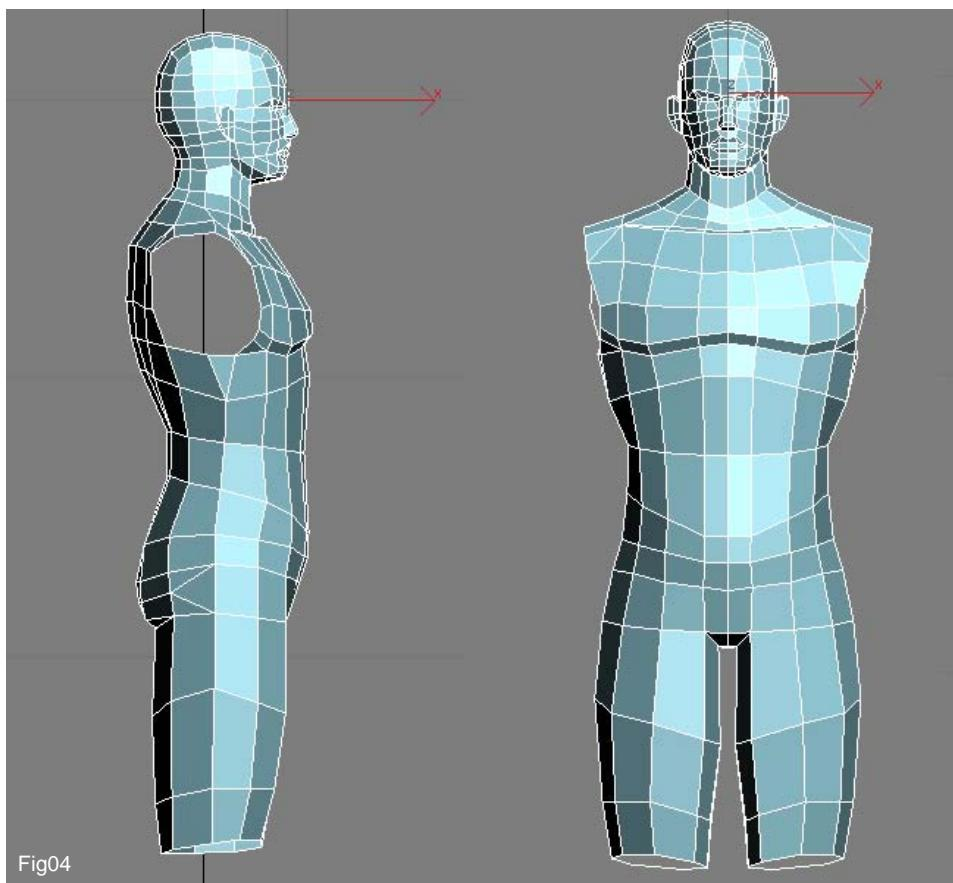

Fig04
4. Using this same technique extend the leg downwards to create the upper part of the leg. Remember to tweak the positions of the verts as you do so in order to form the best shape as we go along. You can see in Fig04 that I have formed two additional edges down to the knee area.